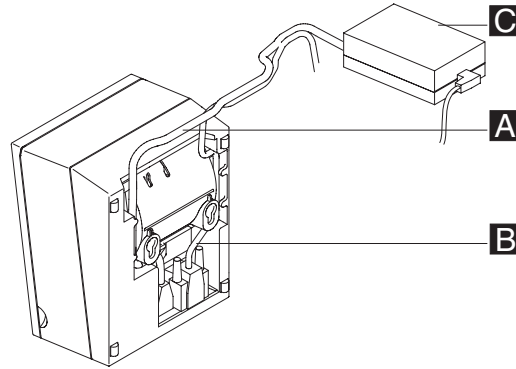

Figure 99. Attaching and routing the signal and power supply cables to the printer.
2. Connect and route the RS-232 communication cable or Powered USB cable **B** and the power supply cable **A** as shown in Figure 99.
1. Install the printer cables and route the cables as shown in Figure 99 on page 123.